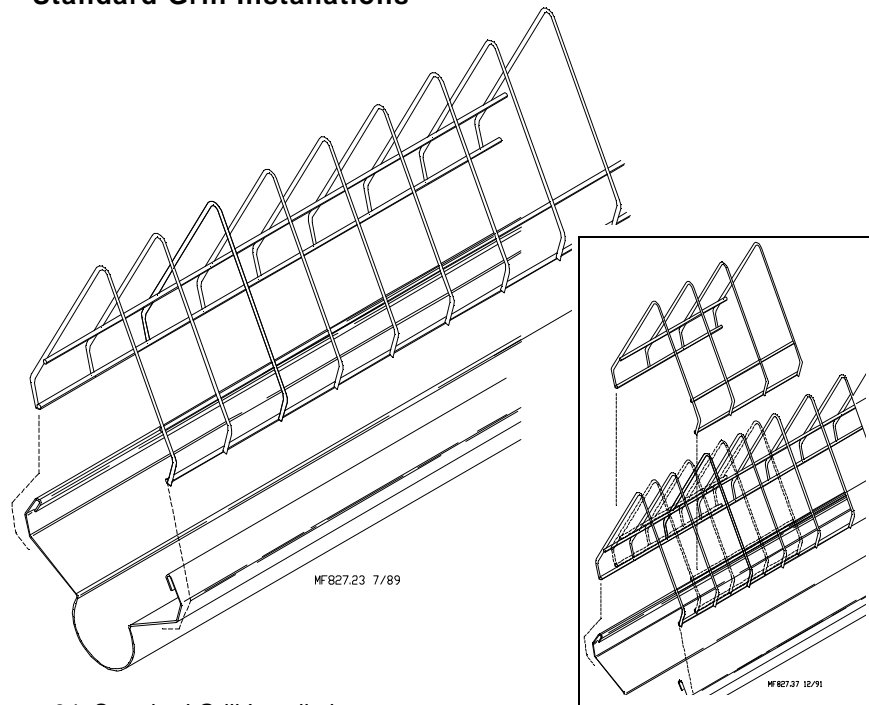

Figure 34. Standard Grill Installation
The ULTRAFLO Breeder Feeder offers the choice of (3) Grill styles, the standard Grill, standard Grill (w/horizontal runner wire), & the Hi-Contour Grill. Refer to Figure 34 or 35 for applicable Grill installation diagram. Additionally, a variety of spacings are available for each grill style.
**Standard Grill ONLY:** Cut a 6" (150 mm) section of grill and install over the existing grill where the auger enters and exits the Power Units, Intake Cups, etc. This will reduce the wire spacing, making it impossible for the birds to eat near the auger entry point. See inset in Figure 34.